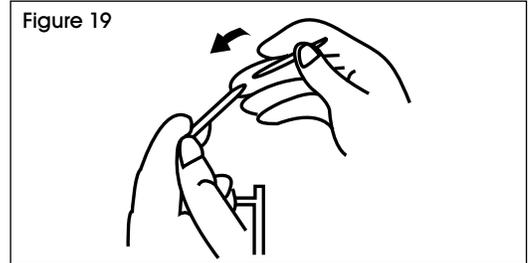

Figure 19
1. Push both curved tubular joints onto one half of the safety cage. (See Figure 19)